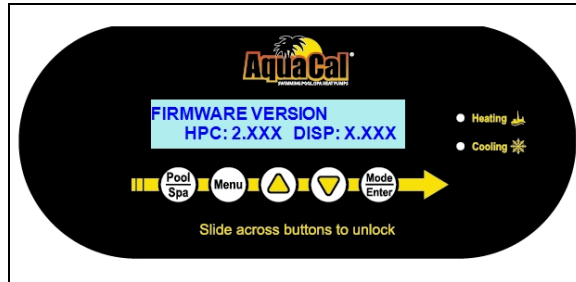

Figure 2 - Firmware Version
2. Heat Pump firmware with a revision number of 2.000 or higher. See Figure 2.